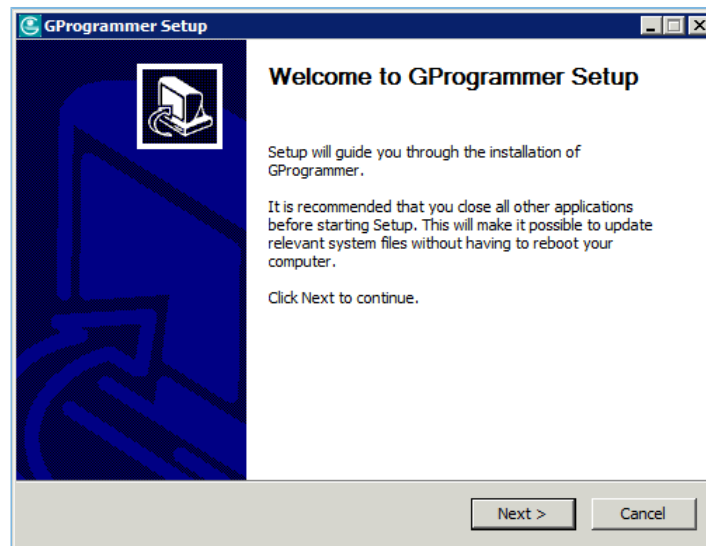

Figure 2-1 GProgrammer Setup installation wizard
1. Double-click *GProgrammar_Windows_Version.exe* to enter the installation interface (as shown in Figure 2-1), and follow the steps in the **GProgrammer Setup** wizard .